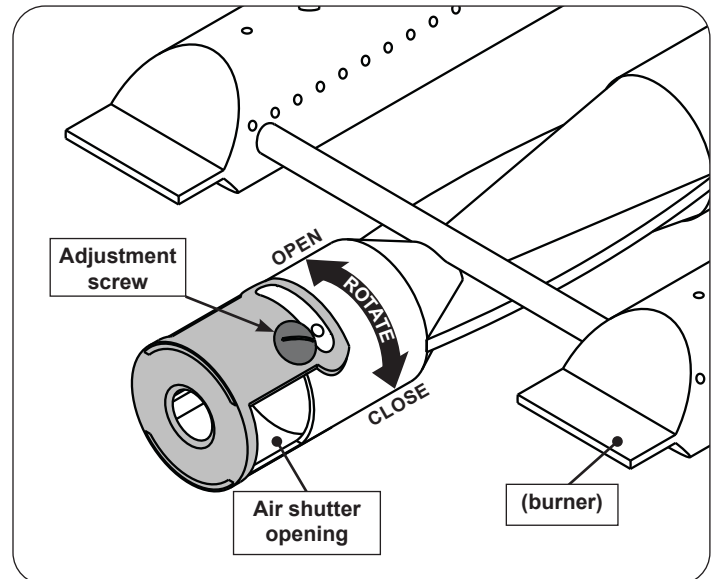

Fig. 44-2 Main burner air shutter adjustment detail
1. To adjust the air shutter, loosen the adjustment screw with a flathead screwdriver. Then rotate the shutter to open or close it. See Fig. 44-2 for details.